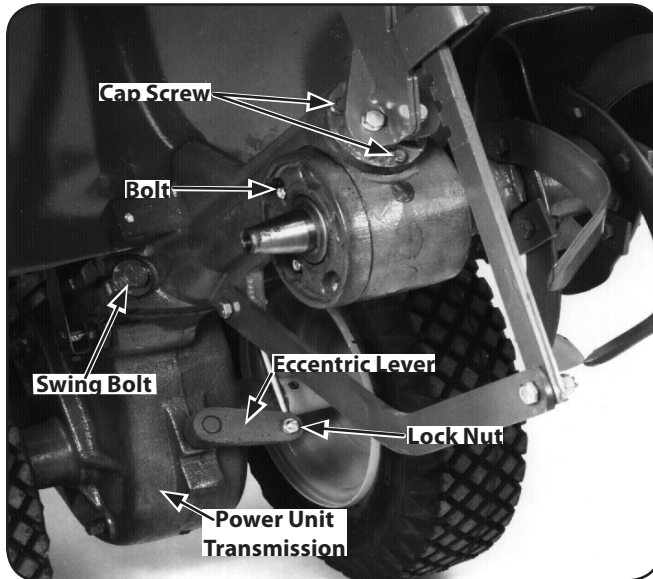

Figure 6-3
- The three rear bearing cap screws are located under the depth regulator mounting bracket. If any are loose, it can cause an oil leak or drive shaft end play. See Figure 6-3.
- Check the locknut that fastens the shifting linkage to the eccentric shifting lever. See Figure 6-3. Do not tighten the locknut against the eccentric lever. It should be very close to, but not touching the lever.